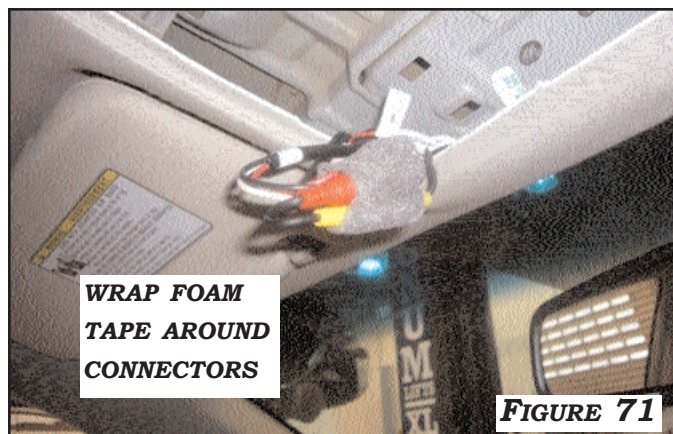

FIGURE 71
3. CONNECT **MALE RCA** VIDEO CONNECTOR OF CAMERA EXTENSION HARNESS TO **VIDEO** INPUT (YELLOW CONNECTOR) OF MIRROR HARNESS. CONNECT **MALE DC** POWER CONNECTOR OF CAMERA EXTENSION HARNESS TO CAMERA **POWER** OUTPUT (BLACK CONNECTOR) OF REARSIGHT MIRROR HARNESS. CONNECT RED, WHITE, AND BLACK WIRES OF POWER EXTENSION HARNESS AS SHOWN IN **FIGURE 10**. WRAP ALL **RCA** AND **DC** CONNECTORS WITH THE FOAM TAPE PROVIDED. **FIGURE 71**